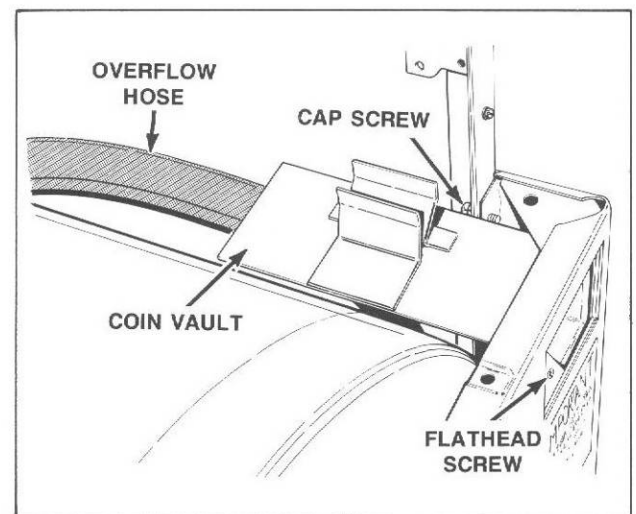

Figure 10
- Remove flathead screw and locknut, Figure 10, holding coin vault to front panel.
- Remove two cap screws and lockwasher holding coin vault to right leg, Figure 10.
**NOTE: Pump Models: Overflow hose, *Figure 10*, may have to be pushed down to gain access to cap screw holding top of front panel assembly to right leg.**